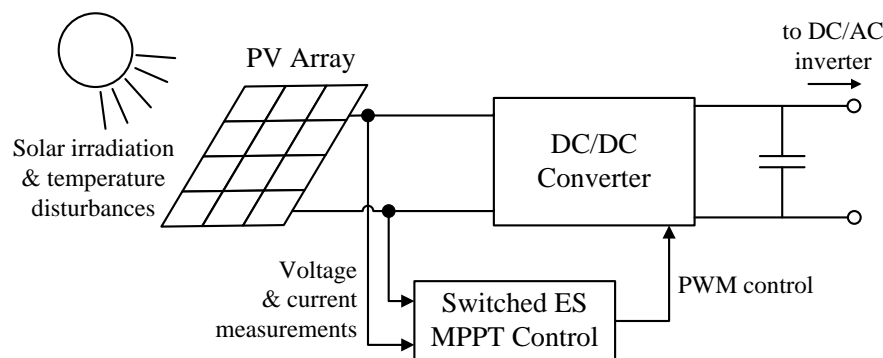

Figure 5: PV System.
Photovoltaic (PV) arrays convert solar energy into electrical energy. Interestingly, the output power is a nonlinear function of PV array voltage, and exhibits a unique maximum power point. This maximum power point, however, shifts due to changing temperature, shading, and solar irradiation. This potential project investigates algorithms to track the maximum power point in realtime, as shown in Fig. 5.